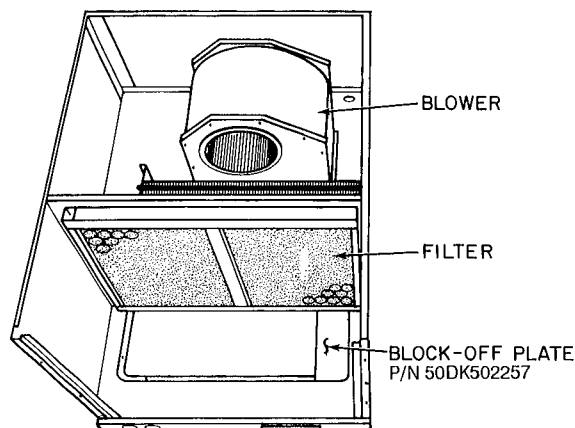

Fig. 19 - Vertical Discharge Block-Off Plate (Sizes 012,014 only)
4. On 48TJ012,014 units, install vertical discharge block-off plate over duct openings. See Fig. 19.